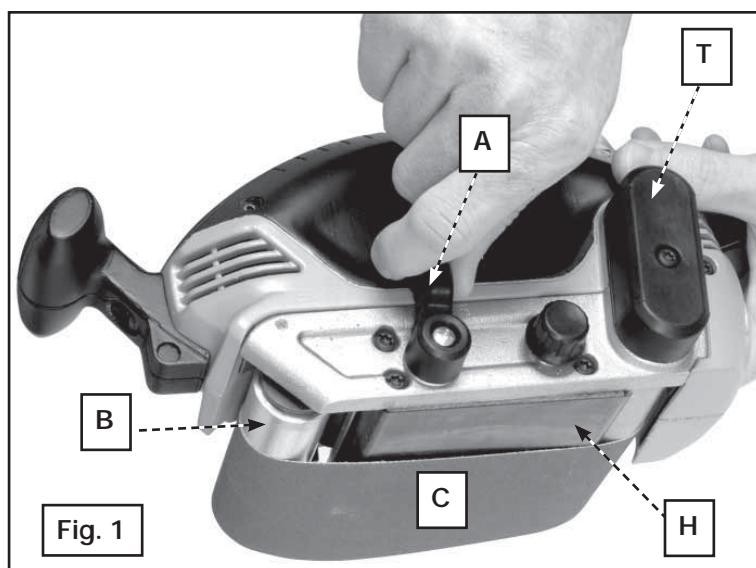

Fig. 1
1. Rotate the belt release lever (A) Fig. 1 up until front wheel of the sander (B) Fig. 1 retracts and releases the tension on the abrasive belt (C).
4. Rotate the belt release lever (A) Fig. 1 down into position to reapply tension to the belt.
CAUTION: To reduce the risk of injury, check to see that the belt guard (T) Fig. 1 is in place, secured, and working correctly.
4. NOTE: The belt should be aligned with the flush edge of the platen (H) Fig. 1 while the sander is in operation.
2. Rotate the belt release lever (A) Fig. 1 down.